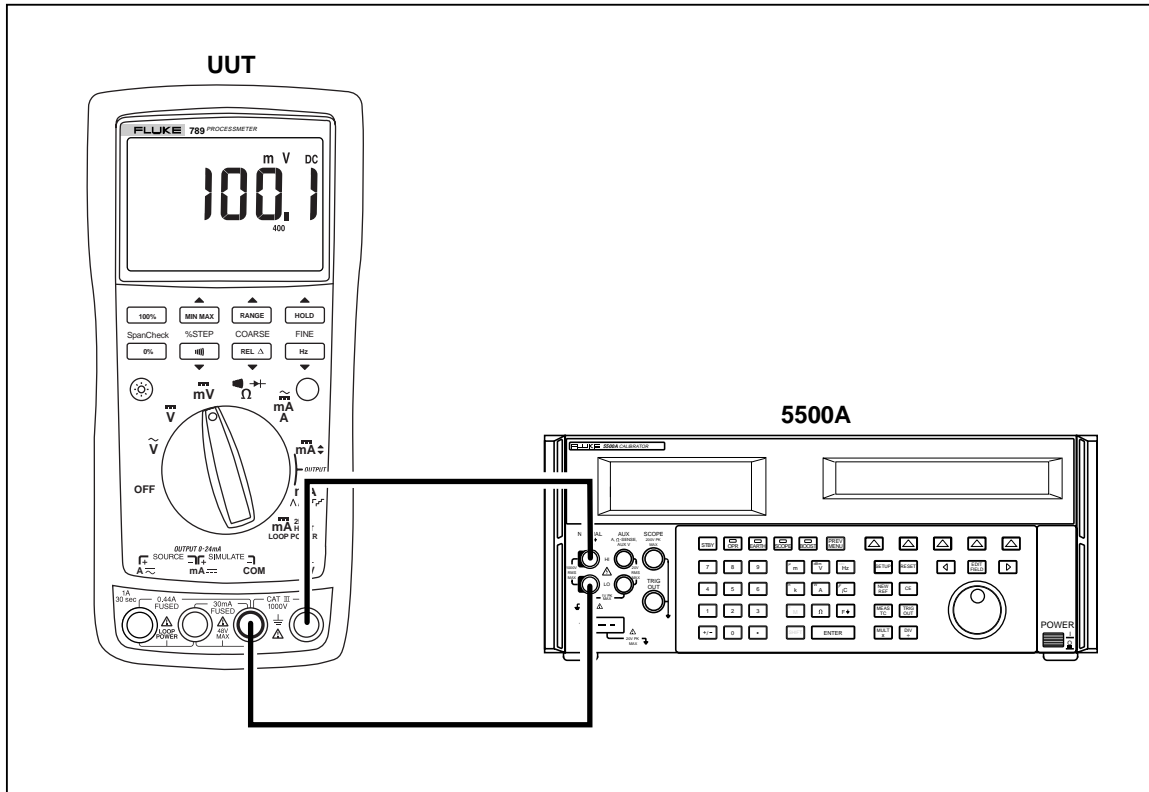

Figure 8. DC mV Measurement Test Connections
3. Connect the calibrator to the **COM** and $\overline{\Omega^+V}$ terminals on the UUT as shown in Figure 8.